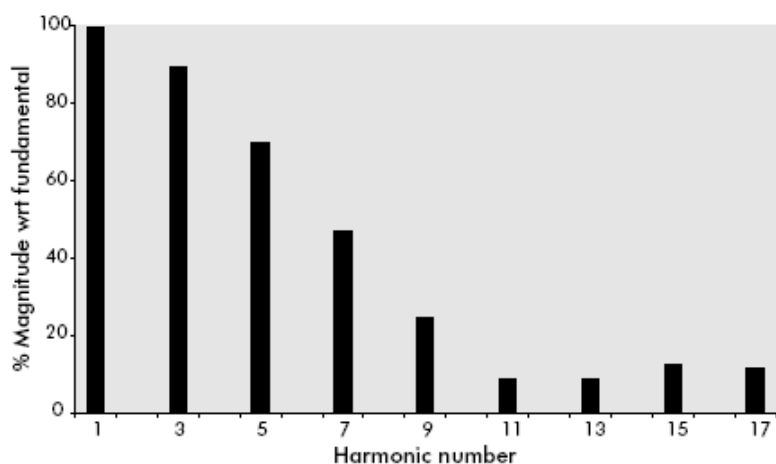
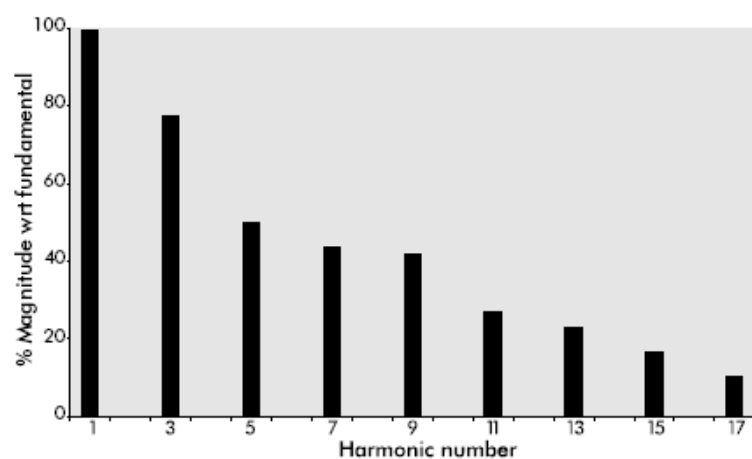

Figure 3 – SMPS Harmonic Components
Figure 4 – CFL Harmonic Components
The most common source of harmonics on single-phase systems are switched mode power supplies (SMPS) and electronic fluorescent lighting ballasts. Most modern electronic units use SMPS rather than the conventional step-down transformer plus rectifier. Their advantage is that size, cost, and weight are significantly reduced. Their disadvantage is that rather than drawing continuous current from the supply it draws pulses of current that contain harmonic content, as shown in figure 3. The line-to-neutral voltage harmonics can be reduced by fitting filters, but they do not reduce the currents that flow back to the supply. Electronic lighting ballasts enable higher efficiency lamps to be used, but like SMPS they generate harmonics. Also, Compact Fluorescent Lamps (CFL) are being marketed as replacements for tungsten filament bulbs (an 11 W CFL replaces a 60 W filament bulb and lasts for ~8000 hours). The harmonic spectrum of a CFL is shown in figure 4.
- The SMPS shown in figure 3 has a THDI on the order of:
- The CFL shown in figure 4 has a THDI on the order of: